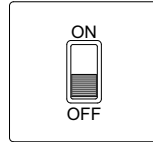

Figure 21
1. Turn off the power before beginning installation. (see Fig. 21)